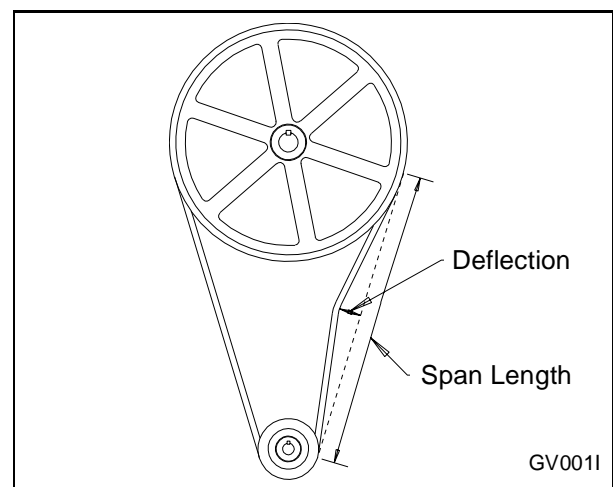

Figure 17
- **Deflection.** See Figure 17. Loosen motor mounting bolts and slide motor along motor plate to change belt span length. Belt tension measurements should be taken as close to the center of the belt span as possible. For every inch of span length, the belt should deflect 1/64 inch (0.40 mm). Thus, a belt with span length of 50 inches should deflect 50/64 inch (25/32mm). An initial (run-in) force of 5.25 pounds should be used to set the belt tension. An operating (normal) force of 3.5 pounds should be used after the washer-extractor has been operated for a few hours.